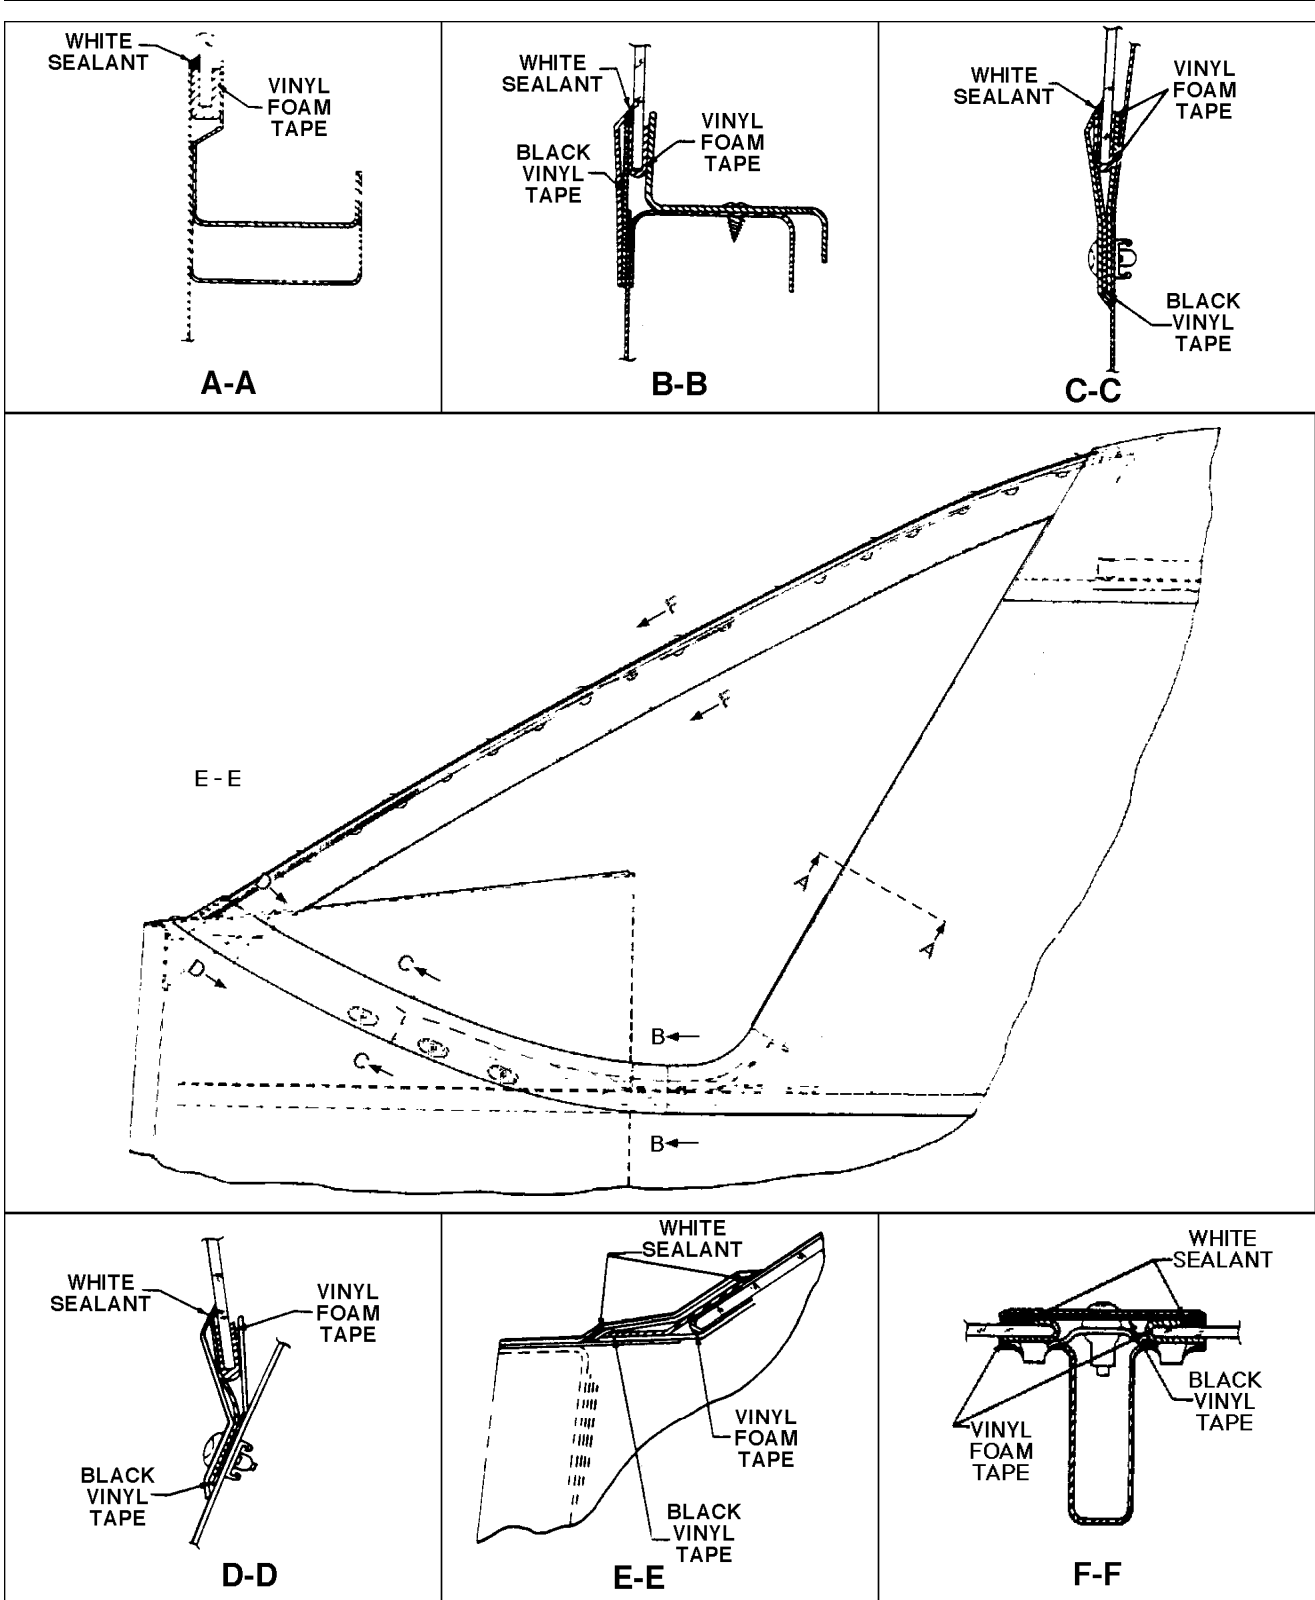

Figure 4-6. Window Installation (Typical)
- ## 4-32. INSTALLATION OF WINDSHIELD. (Refer to Figure 4-6.)